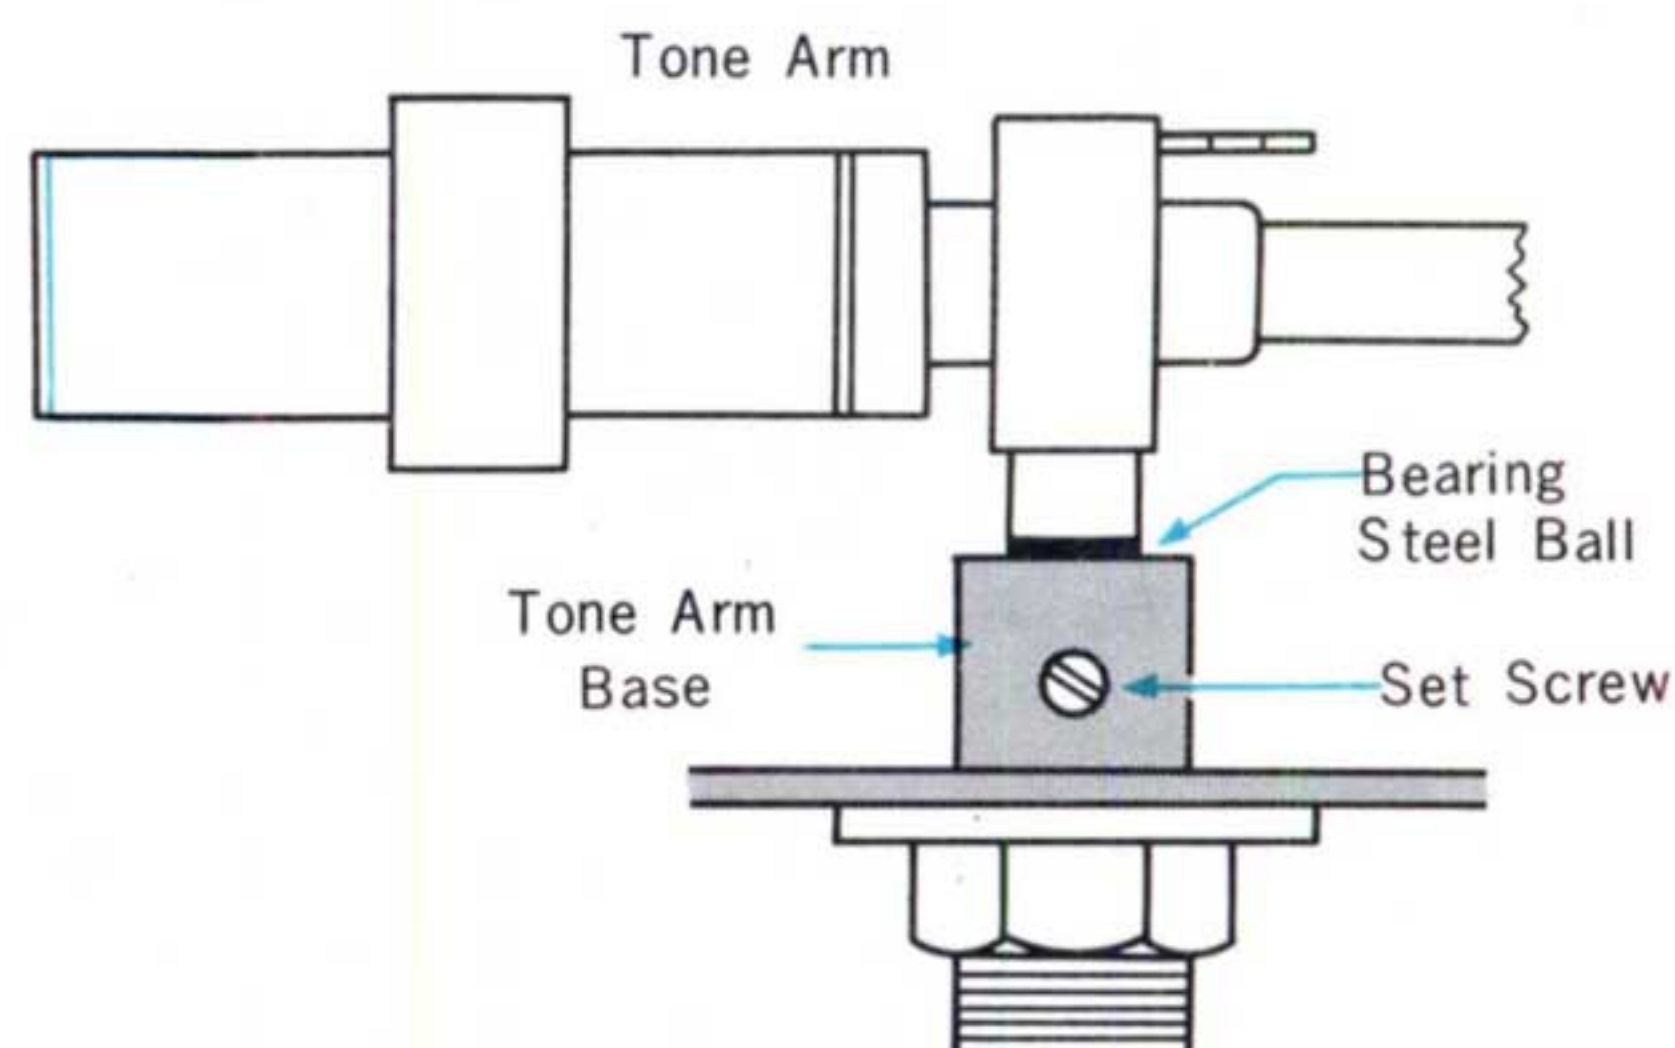

Fig. 3-3 Tone Arm Height Adj.
2. Adjust the height of the shaft so that the top ball bearings come in line with the surface of the tone arm base as shown in Fig. 3-3.